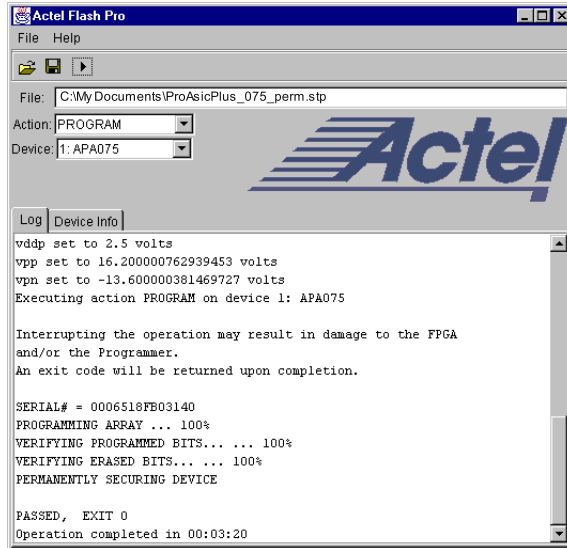

Figure 2-16. Successfully Programmed Device Using Permanent Lock
- 4. Make your selections and click *Execute* to start programming.** The progress of the programming action is displayed in the Log window. The message 'Exit 0' indicates that the device has successfully been programmed as shown in Figure 2-16.